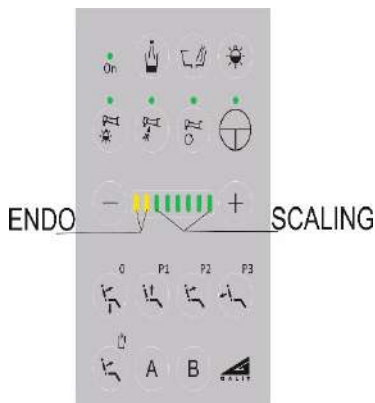

Рисунок 5.2.4.6
- select a necessary mode of operation of the scaler (**PERIO/ENDO/SCALING**) on the control panel of doctor table (Figure 5.2.4.6). (Inserts or files for the scaler must be chosen according to the mode of operation of the scaler).